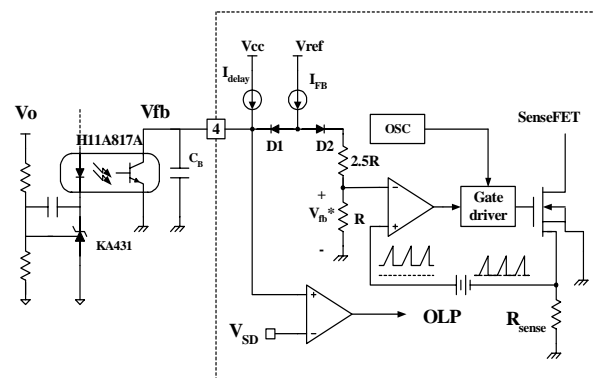

Figure 5. Pulse width modulation (PWM) circuit
**2. Feedback Control :** FSDM07652R employs current mode control, as shown in figure 5. An opto-coupler (such as the H11A817A) and shunt regulator (such as the KA431) are typically used to implement the feedback network. Comparing the feedback voltage with the voltage across the Rsense resistor plus an offset voltage makes it possible to control the switching duty cycle. When the reference pin voltage of the KA431 exceeds the internal reference voltage of 2.5V, the H11A817A LED current increases, thus pulling down the feedback voltage and reducing the duty cycle. This event typically happens when the input voltage is increased or the output load is decreased.
**2.1 Pulse-by-pulse current limit:** Because current mode control is employed, the peak current through the Sense FET is limited by the inverting input of PWM comparator (Vfb\*) as shown in figure 5. Assuming that the 0.9mA current source flows only through the internal resistor (2.5R + R = 2.8 kΩ), the cathode voltage of diode D2 is about 2.5V. Since D1 is blocked when the feedback voltage (Vfb) exceeds 2.5V, the maximum voltage of the cathode of D2 is clamped at this voltage, thus clamping Vfb\*. Therefore, the peak value of the current through the Sense FET is limited.